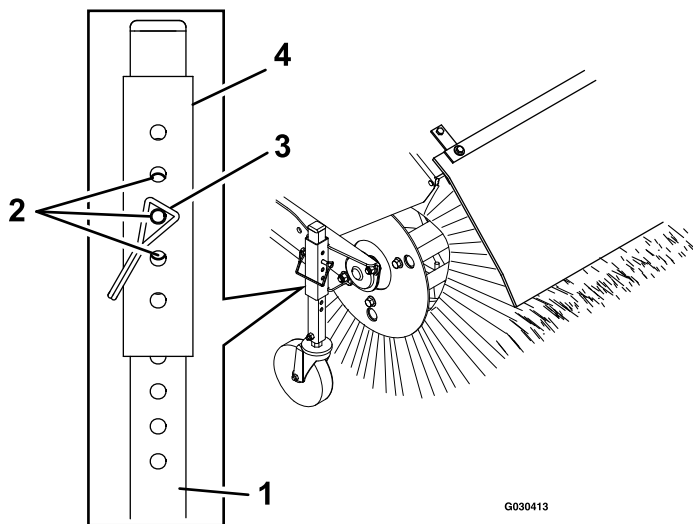

Figure 9
3. To adjust the broom height, remove and retain the pin from the adjuster sleeve and wheel tube of the caster (Figure 9).
5. For finer adjustment, slide the adjuster sleeve 1 pin hole up or down on the caster wheel tube to adjust the broom height in 3 mm (1/8 inch) increments (Figure 9). Repeat steps 3 through 5 for the other caster wheel.